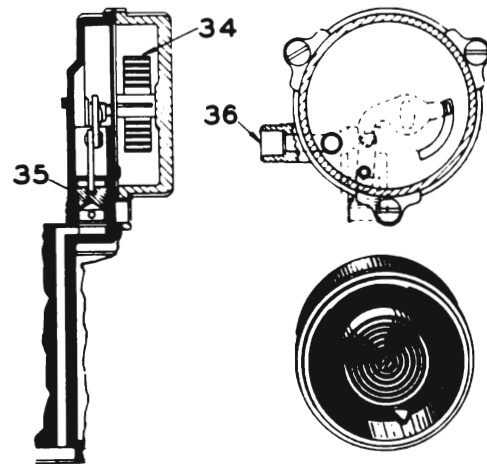

Fig. 6-82. Climatic Control
When engine is cold the tension of thermostatic choke spring (34) holds choke piston (35) at the top of its travel and choke valve completely closed. This supplies the engine with a rich mixture for starting. See Fig. 6-82.